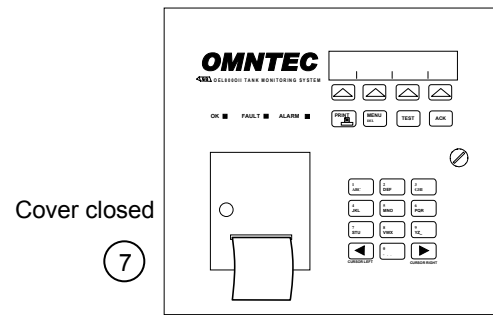

Fig. A-3: Print Cover Closed
7. While lowering the print cover, feed the paper through its paper slot (see Figure A-3).